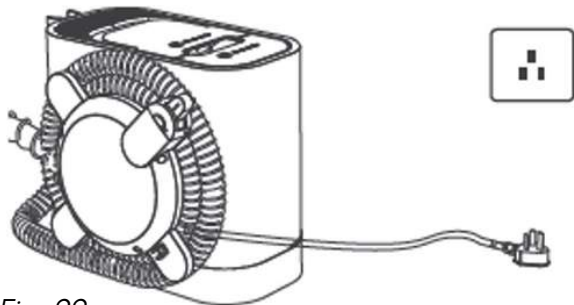

Fig. 29
1. Before operating, make sure the appliance is powered off and cooled down completely (see Fig.29).